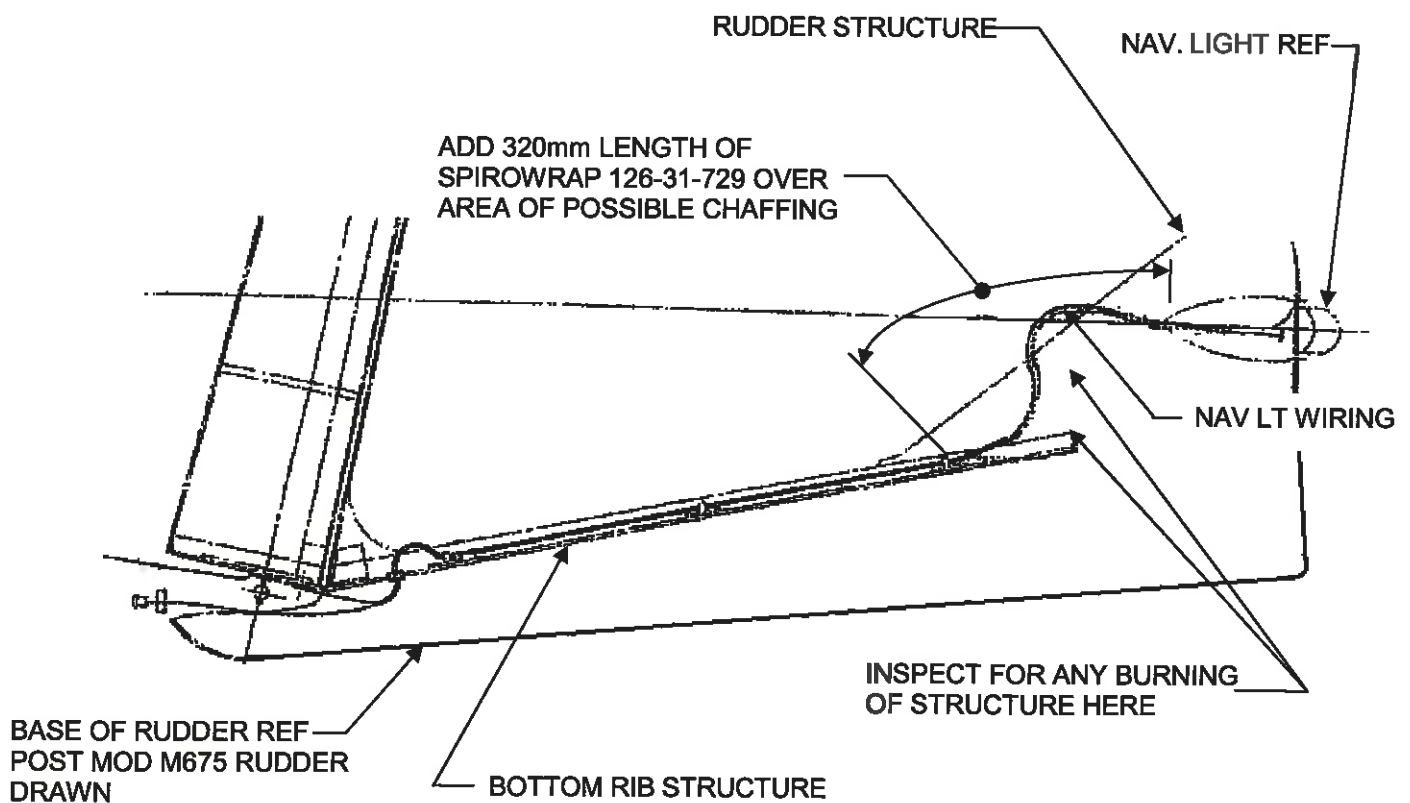

FIGURE 1
- 3 Check wiring for any chaffing in area indicated by Figure 1.
- 5 If there is no cable damage then protect wiring as per Figure 1 with Spiral Binding 126-31-729.